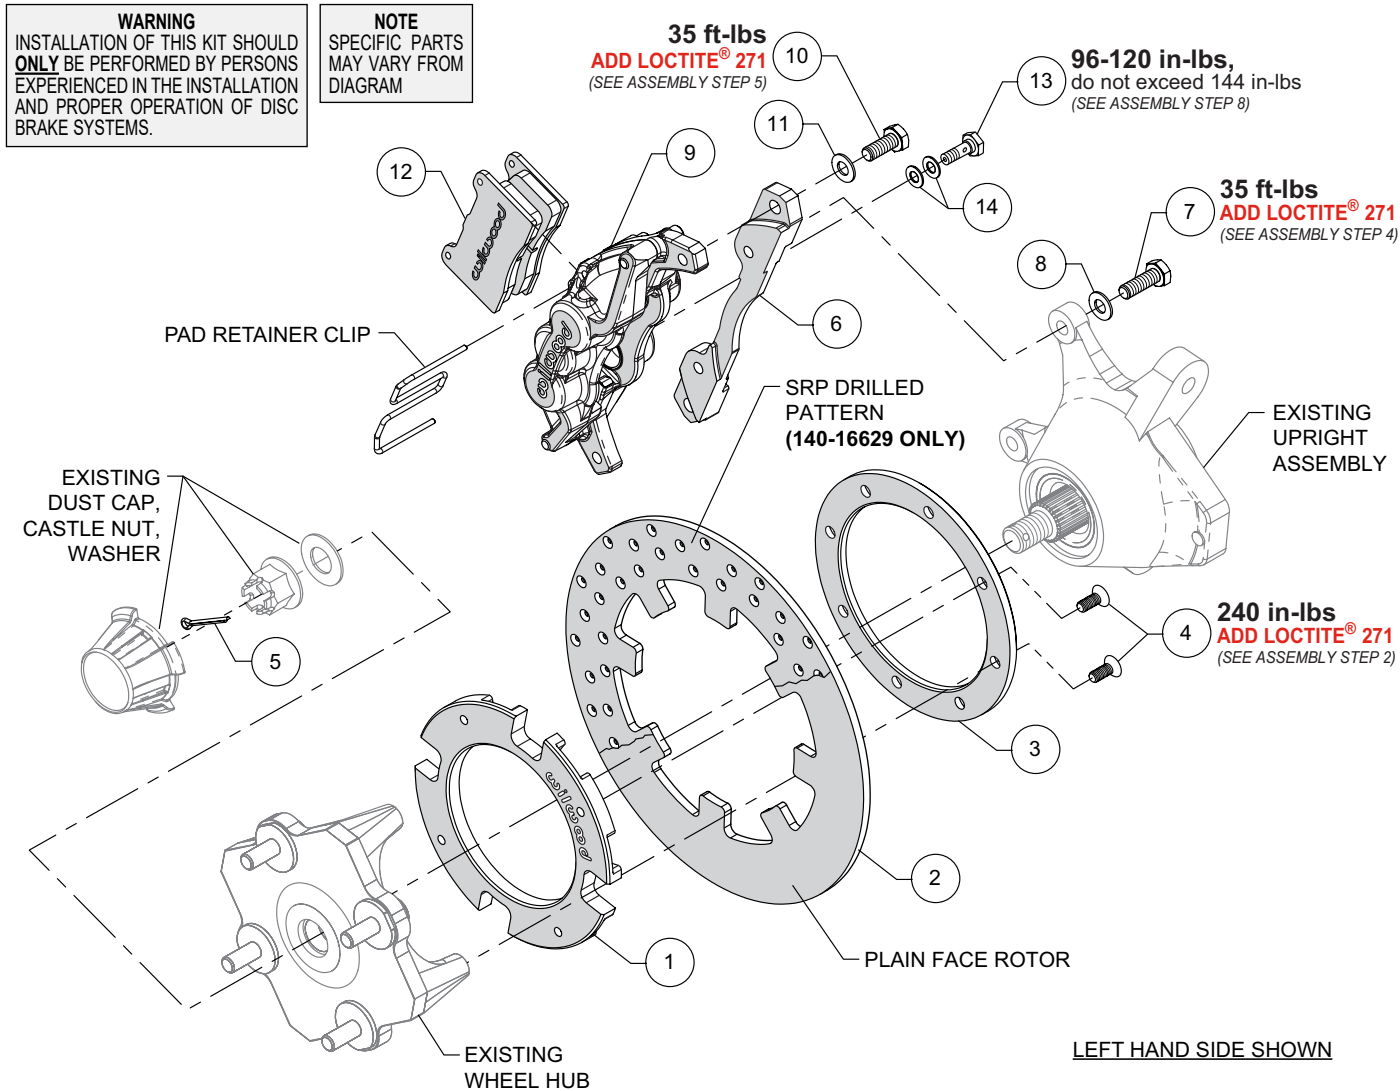

Figure 1. Typical Installation Configuration
**NOTE:** Numbers in parenthesis refer to the parts list and Figure 1 on the preceding pages.
**STEP 1** Place the existing OEM wheel hub face down and position the rotor adapter (1) onto the wheel hub as shown in Figure 1 and Photo 1. **NOTE:** The existing wheel hub must be free of dirt and debris or excessive rotor run out may result.
**STEP 2** Position the rotor (2) onto the rotor adapter (1), making sure the rotor lugs fit into the recesses of the rotor adapter, as shown in Photo 2. Place the adapter ring (3) over the assembly and attach using bolts (4), Photos 3 and 4. Using an alternating sequence, apply red *Loctite*® 271 to the threads, and torque to value shown in Figure 1.
**STEP 3** Grease the splines and outer snout of the existing wheel hub and slide the wheel hub/rotor assembly onto the axle and attach using the existing OEM washer and castle nut. Tighten to OEM specifications and secure using cotter pin (5), Photo 5. Reinstall the existing dust cap, Photo 6.
**STEP 4** Orient the caliper mounting bracket (6), as shown in Figure 1 and Photos 7 and 8. Install using bolts (7) and washers (8). Apply red *Loctite*® 271 to the bolt threads and torque to value shown in Figure 1.
**STEP 5** Secure the caliper (9) to the mounting bracket (6) using bolts (10) and washers (11), Photo 9. Apply red *Loctite*® 271 to the threads, and torque to value shown in Figure 1.
**STEP 6** Remove the pad retainer clip from the caliper (9). Insert the brake pads into the caliper with the friction material facing the rotor, as shown in Photo 10. Reinstall the pad retainer clip, Photo 11.
**STEP 8** Attach brake line to caliper. Orient OEM brake line as shown in Photo 12 and connect to caliper using banjo bolt (13) and crush washers (14). Do not use lubricant or thread sealant on banjo bolt (13). Torque to minimum value shown in Figure 1. Check for leakage, increasing torque only to stop leakage without exceeding